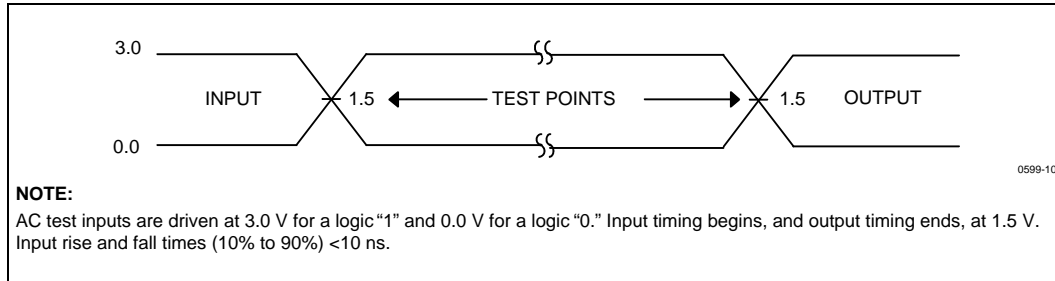

Figure 11. High Speed Test Waveform
2. 5% VCC specifications apply to the high-speed test configuration (Figures 11 and 13).